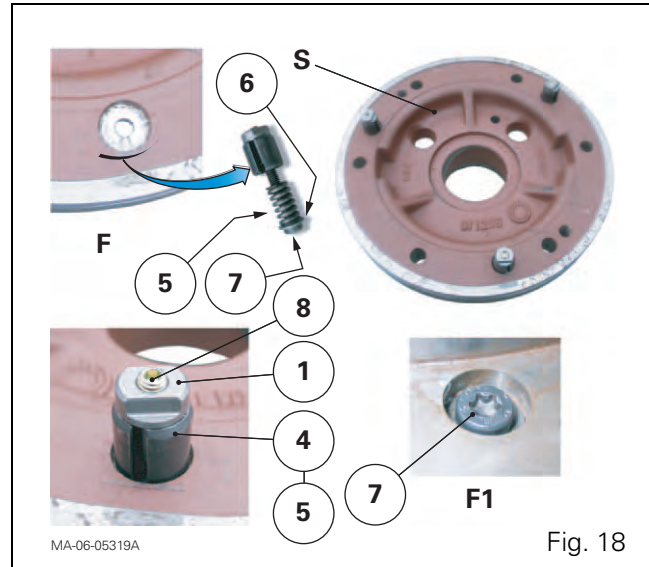

Fig. 18
31. On faces F and F1 of differential support(s) S, remove an assembly (3) including (Fig. 18):
- the locking screw (8);
- the shouldered nut with flat sections (1) (support the M6 screw (7));
- the Mecanindus pin (4);
- the M6 screw (7);
- the flat washer (6);
- the spring (5).
33. On faces F and F1 (Fig. 18) of differential support(s) S, refit (Fig. 19):
- the spring (5);
- the shouldered nut with flat sections (1), with its thread lightly smeared with Loctite 243 or equivalent.